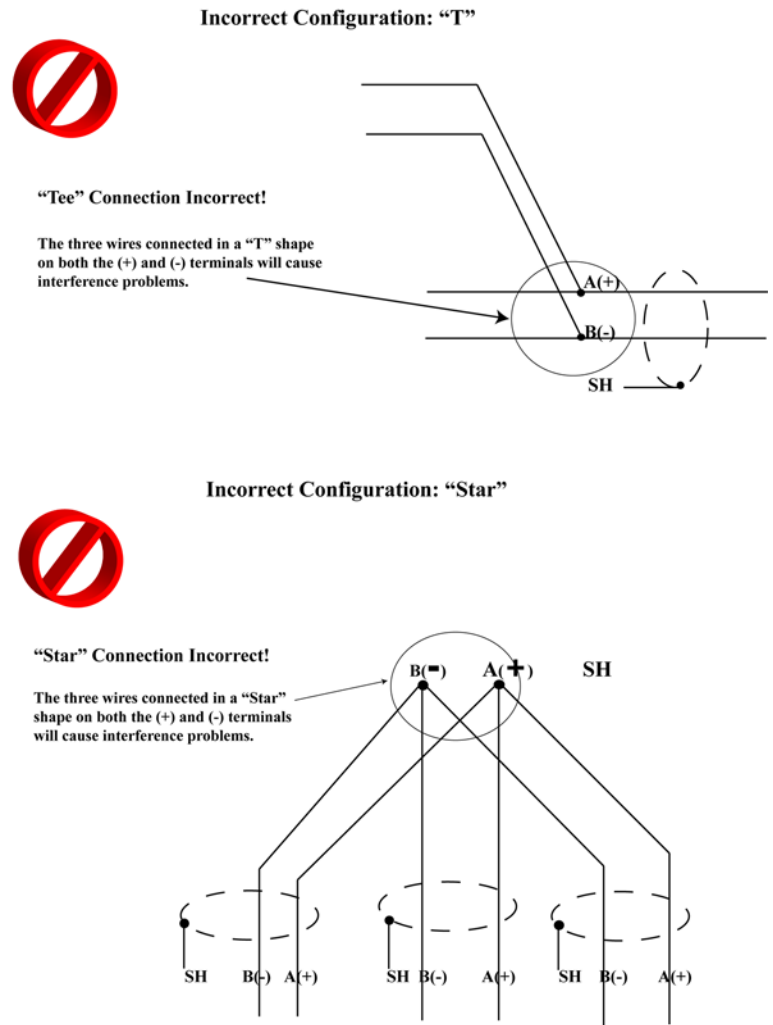

FIGURE 5-6: Incorrect "T" and "Star" Topologies
- Connect shield to RS485 Master and individual devices as shown in Figure 5.6. You may also connect the shield to earth-ground at one point.
- Termination Resistors (RT) may be needed on both ends of longer length transmission lines. However, since the meter has some level of termination internally, Termination Resistors may not be needed. When they are used, the value of the Termination Resistors is determined by the electrical parameters of the cable.